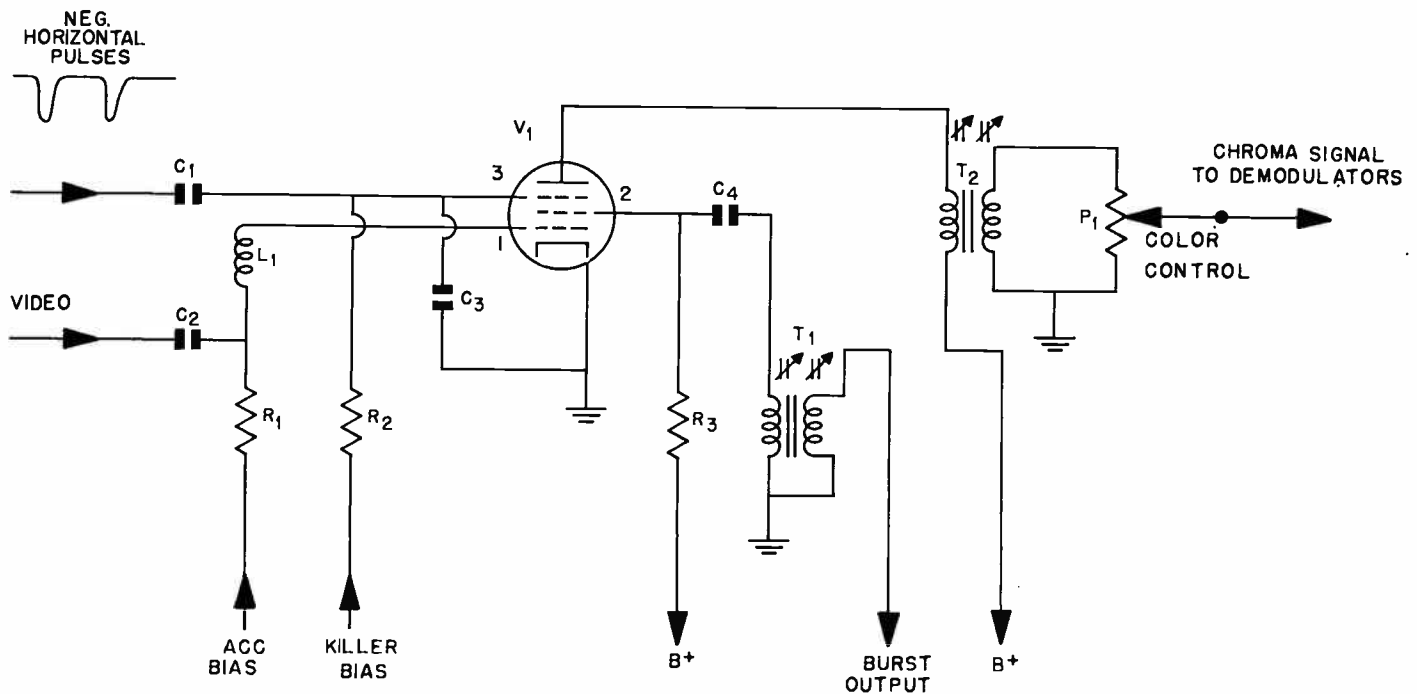

Fig. 22. Dual grid controlled pentode circuit combines chroma bandpass amplifier and burst keyer circuit.
A rather interesting circuit which uses a dual grid controlled pentode tube and performs the two functions of chroma amplifier and color burst amplifier is shown in Fig. 22. Notice that in this circuit we have the complete color signal fed from the video amplifier through C2 and L1 to the grid of V1. At the same time
- (y) In the circuit shown in Fig. 22, from what element of V_1 is the burst signal removed?
- (z) Will an amplified color burst signal appear at the plate of V_1 in the circuit shown in Fig. 22?